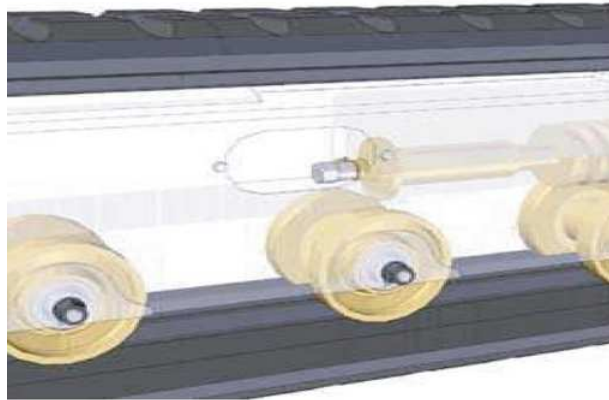

Fig. 8.13-3 - Crawler tensioning valve
- Loosen the tensioning valve (Fig. 8.13-3). Only disassemble the tensioning valve when grease pressure has been released.